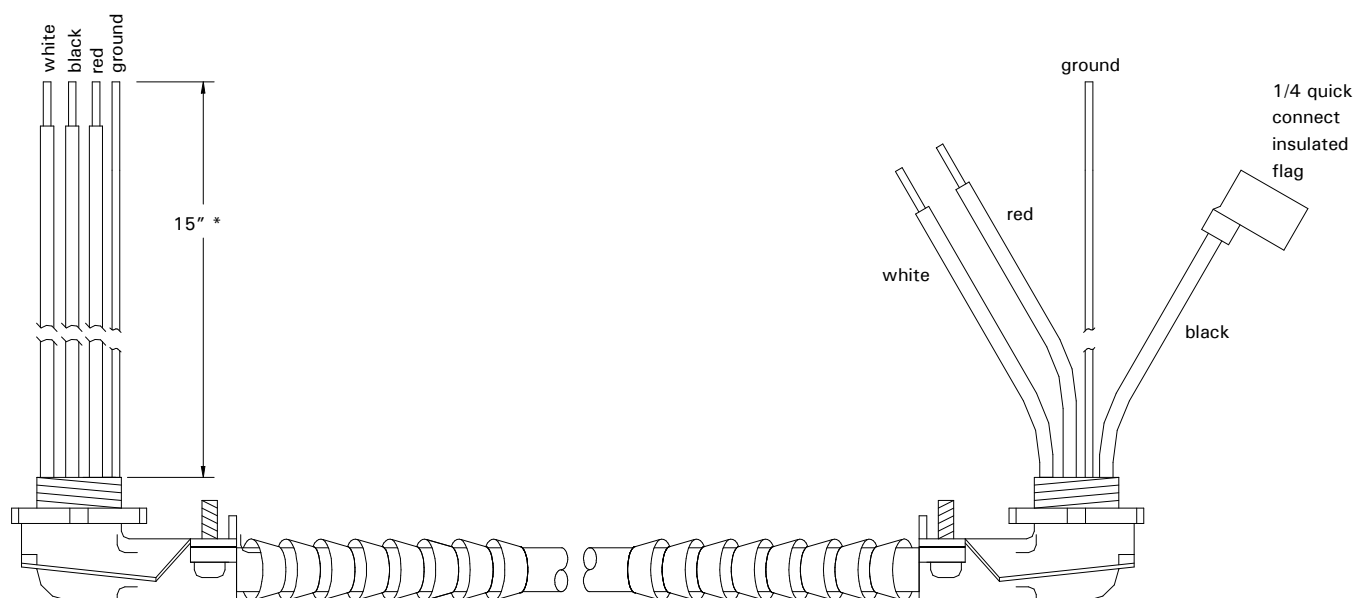

Fig. 11
1. Run the #41 plug-in connector cable of the Vitotronic control down behind the front panel of the boiler and out through the bottom. (Fig. 11)
2. Connect the female #41 plug of the burner to the male #41 plug of the Vitotronic control. (Fig. 11)